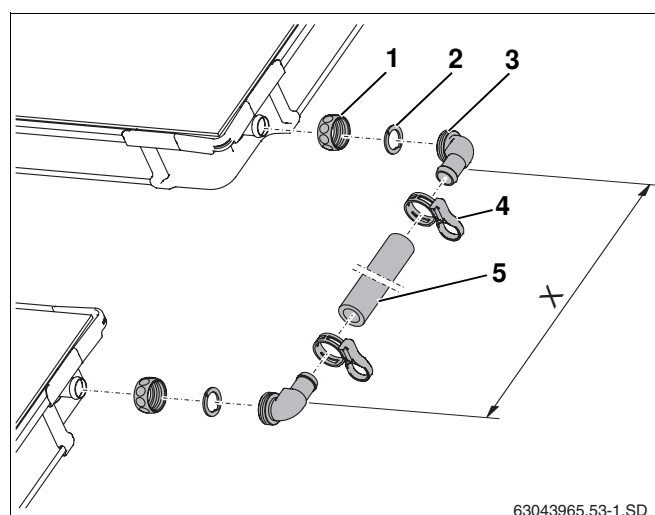

Fig. 41 Connection set between two collector rows
- Push union nut (Fig. 41, **Item 1**) over the collector connections.
- Place the clamping disc (Fig. 41, **Item 2**) behind the head on the collector connection and press together.
- Press angled nozzle with O-ring (Fig. 41, **Item 3**) onto connection, align and join with nut.
- Measure distance between the angled nozzles (dim. X) once the collectors are installed, and cut the solar hose (Fig. 41, **Item 5**) to size accordingly.
- Attach solar hose to the angled nozzles and secure using hose clips (Fig. 41, **Item 4**).